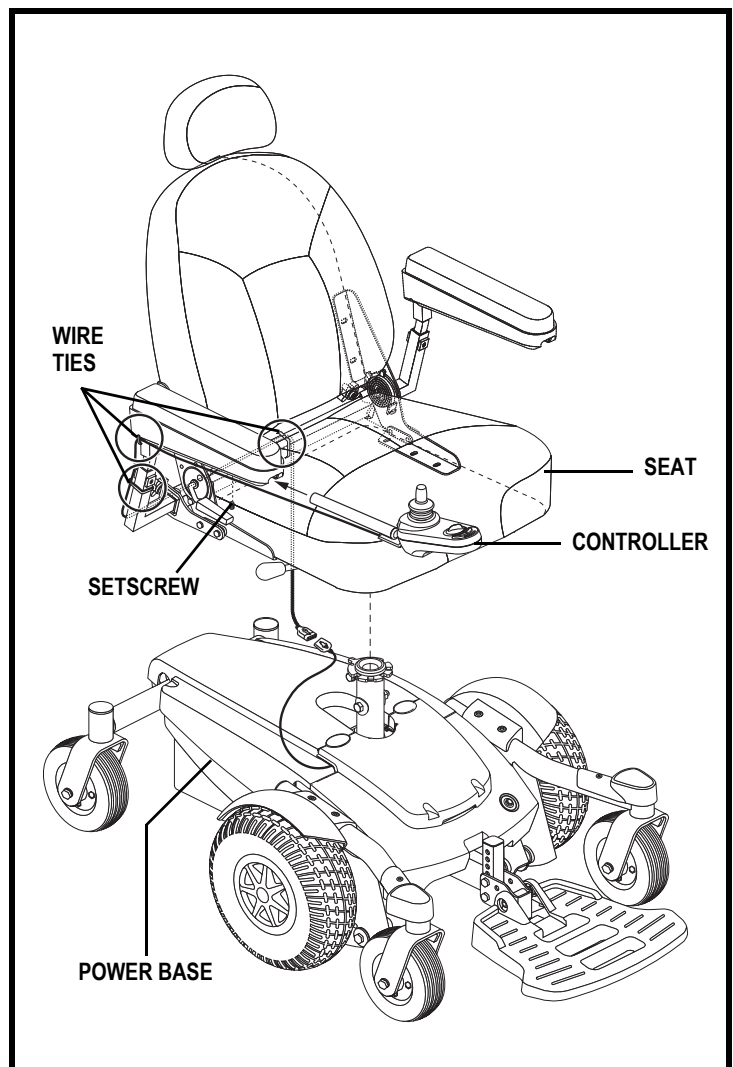

Figure 13. Seat and Controller Assembly
1. Slide the seat down onto the power base. See figure 13.
2. Install the controller into one of the armrests. Tighten the setscrew with the supplied hex key. See figure 13.
3. Lift the armrest straight up, then route the controller harness and secure with wire ties as shown in figure 13.